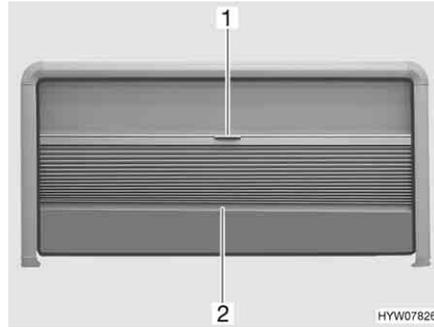

Fig. 79 Hinged window
- Hold the Roman shade in the centre of the bottom rod (Fig. 79,2) and carefully draw it downwards.
- Hold the bottom rod (Fig. 79,2) of the Roman shade in the centre and carefully slide the Roman shade upwards.
- Carefully pull down the insect screen by the handle (Fig. 79,1).
- Slowly push the insect screen on the bottom rod of the Roman shade (Fig. 79,2) all the way up.